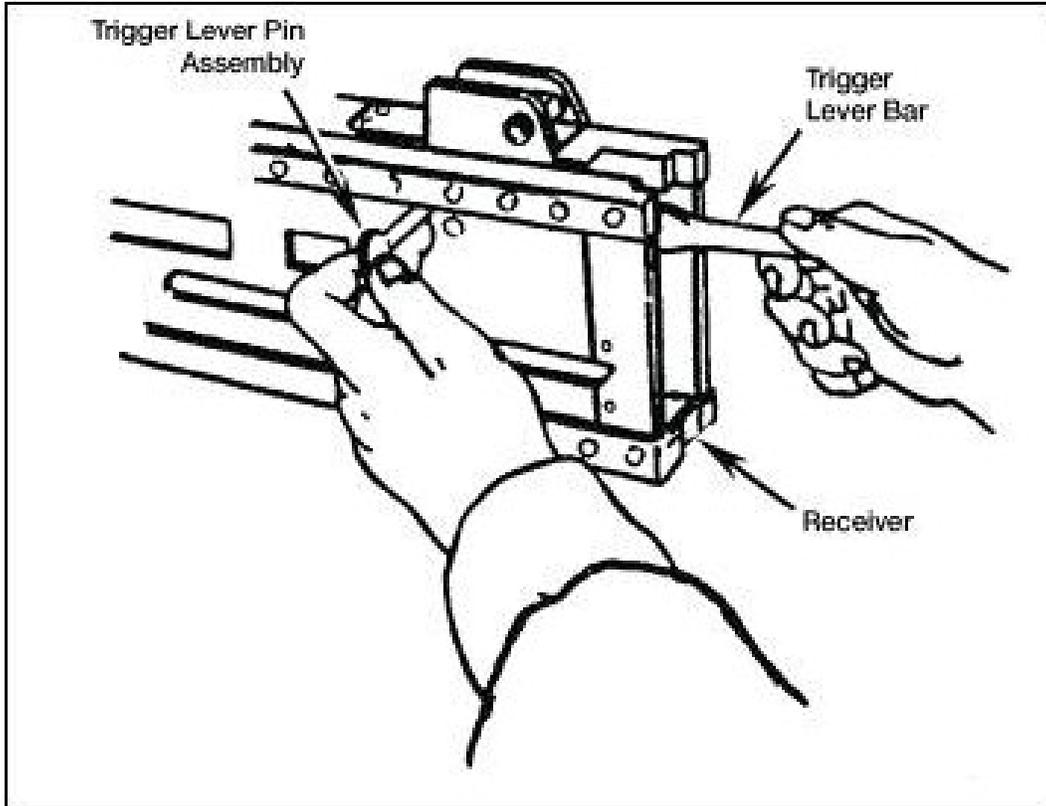

Figure 551-8ST-1025_23 (Assembly of the trigger lever)
a. Assemble the trigger lever (Figure 551-8ST-1025_23).